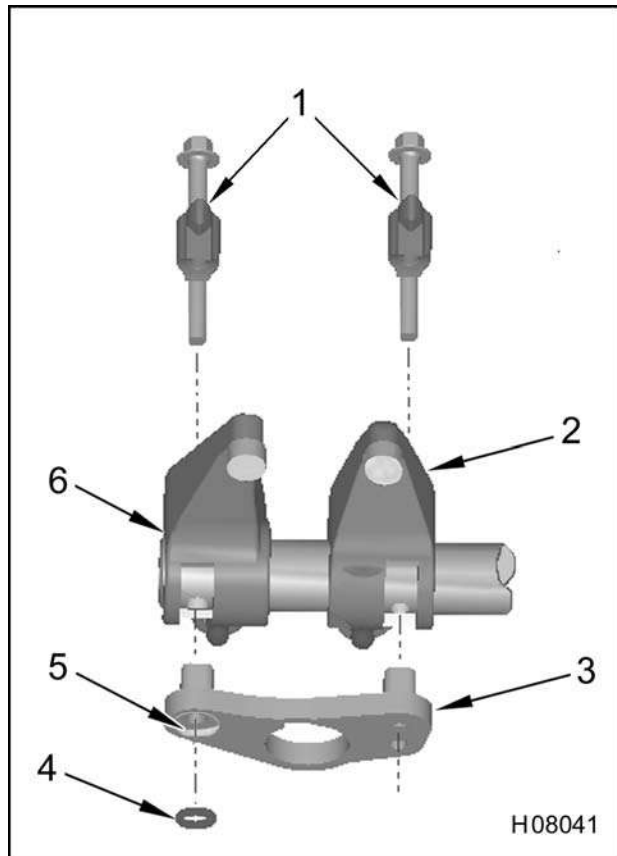

Figure 203 Rocker arm configuration
3. Place a bolt and clamp assembly through each rocker arm shaft support and align shaft with bolt hole in cylinder head (Figure 203).